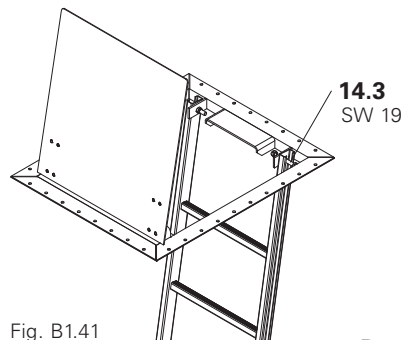

Fig. B1.41
2. Fix ladder to hatch from the top, bolts SW 19 (14.3) (2x). (Fig. B1.41)